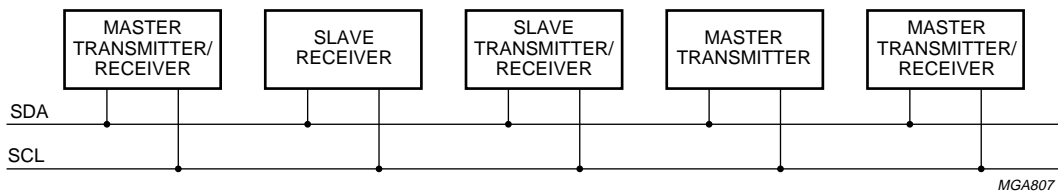

Fig.14 System configuration.
7.3 System configuration (see Fig.14)